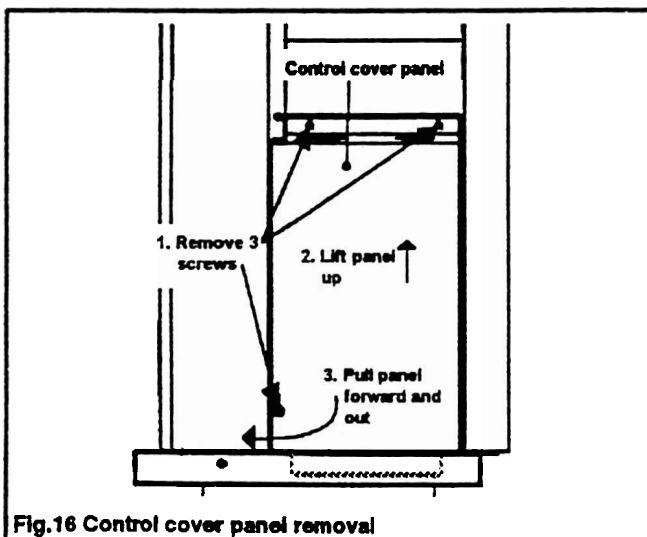

Fig.16 Control cover panel removal
- 11.3 Detach the control cover panel (see figure 16):-